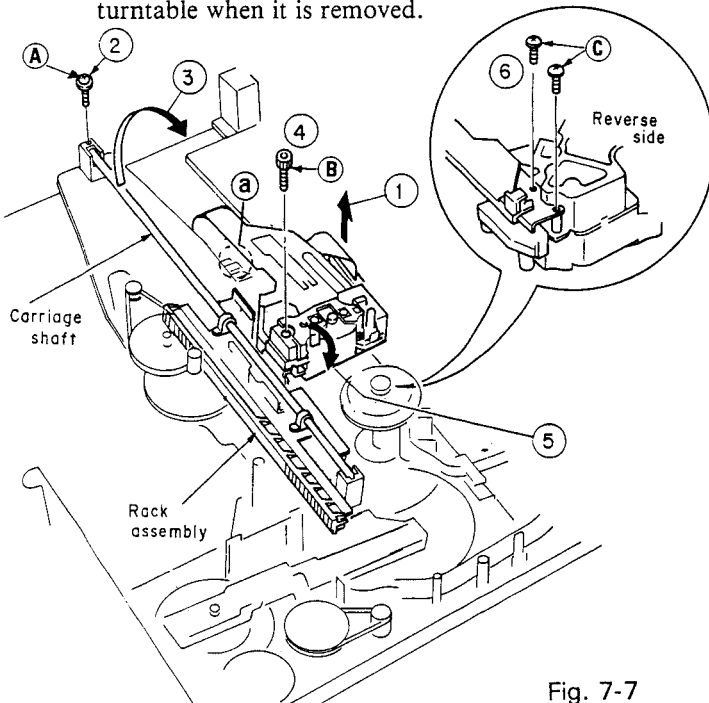

Fig. 7-7
**7.6 REMOVING THE PICK-UP ASSEMBLY (Fig. 7-7)**
- ① Remove the flexible board from the connector and also remove the flexible board installed at section (a).
- ② Remove the screw (A) holding the carriage shaft.
- ③ Raise the shaft in the direction of the arrow to remove the rack assembly.
- ④ Remove the hexagonal screw (B) and lift up the pick-up assembly slightly and turn the pick-up assembly in the direction of arrow (5).
- ⑥ Remove two screws (C) on the back of the pick-up assembly.